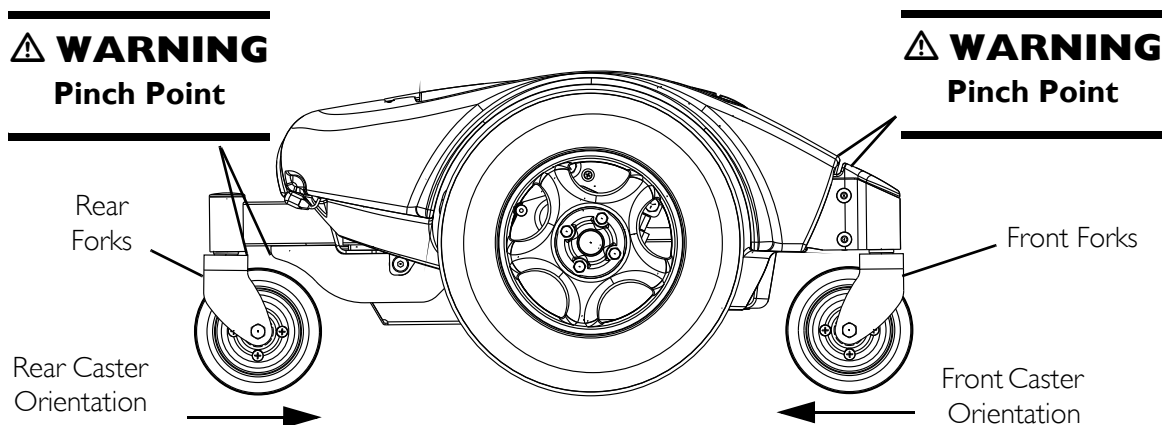

FIGURE 3.2 Lifting/Stairways - orientation of casters and Pinch Points
NOTE: For this procedure, refer to FIGURE 3.2 on page 20.
5. Ensure that the casters are oriented as shown in FIGURE 3.2.
6. Using the rear and front forks as hand hold supports, transfer the wheelchair base to desired location. Refer to FIGURE 3.2.